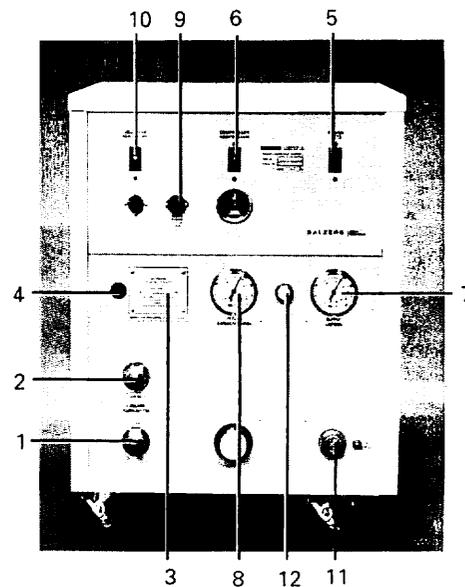

FIGURE 4.1 FRONT PANEL CONNECTION
The system is cooled by a water supply that is connected to the coolant inlet and return ports on the front panel (Fig. 4.1; #'s 1 and 2).
1. Remove the four screws that secure the power connection access cover to the front panel. (Fig. 4.1; #3).
2. Remove the knock-out plug on the front panel. (Fig. 4.1; #4).
11. Switch the source power on and turn on (close) the power switch on the compressor. (Fig. 4.1; #5). If the compressor is properly wired the red indicator light on the reverse phase relay will light. The indicator light can be seen through the perforated cover of the electrical box. If the light is not on, disconnect and lock out the source power and interchange any two-phase leads.
The connector end of the remote cable must be installed on the remote control connector on the compressor front panel. (Fig. 4.1; #9)